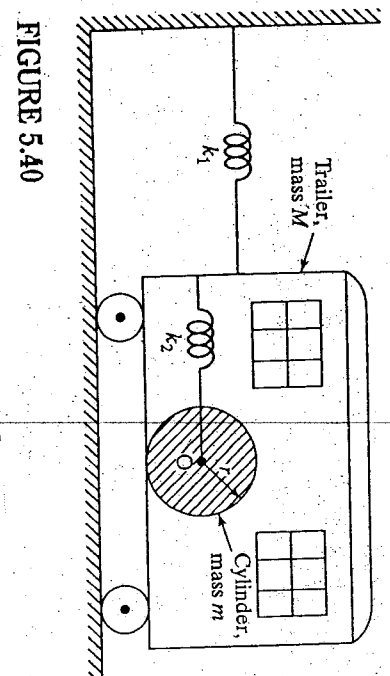

FIGURE 5.40
5.43 A trailer of mass M is connected to a wall through a spring of stiffness k_1 and can move on a frictionless horizontal surface, as shown in Fig. 5.40. A uniform cylinder of mass m , connected to the wall of the trailer by a spring of stiffness k_2 , can roll on the floor of the trailer without slipping. Derive the equations of motion of the system and discuss the nature of coupling present in the system.